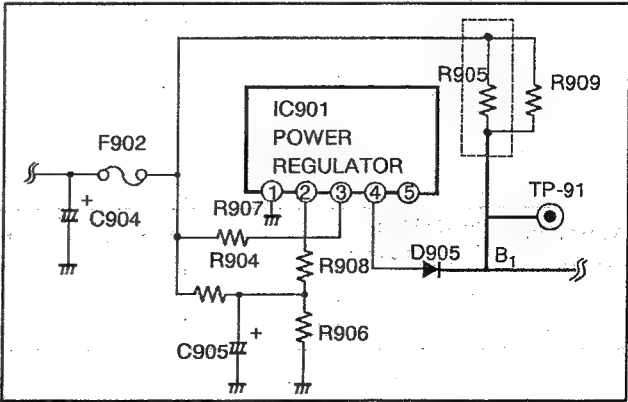

Fig. 2
(1) Make the short circuit across R905, 330Ω 15W UNF R (shown in Fig. 2, ) under normal operating condition.
(2) Confirm the picture goes out.